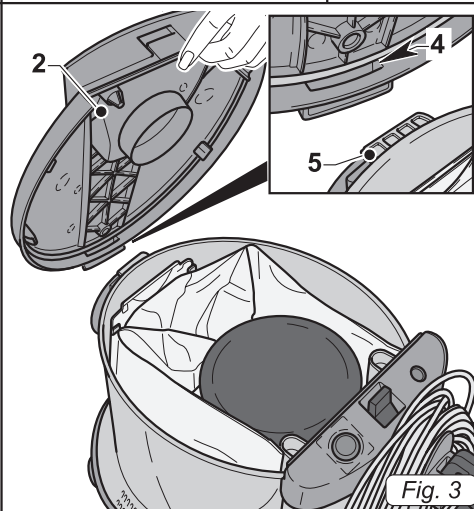
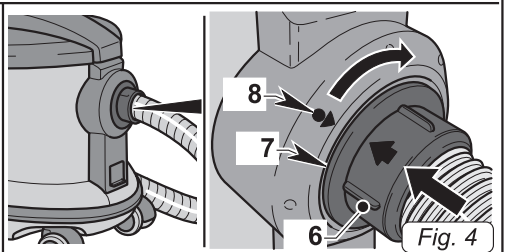

Fig. 3
Fig. 4
- Replace the cover (2 Fig. 3), inserting the slot (4 Fig. 3) on the cover in the tab (5 Fig. 4) on the drum, then push it down until you hear it click into place.
- Insert the sleeve with bayonet coupling (6 Fig. 4) into the hole (7 Fig. 4) on the drum, ensuring the arrow on the sleeve (6 Fig. 4) coincides with the arrow (8 Fig. 4) on the coupling ring nut, then turn the sleeve clockwise until it locks.
- Remove the suction hose by turning the sleeve (6 Fig. 4) in an anti-clockwise direction.